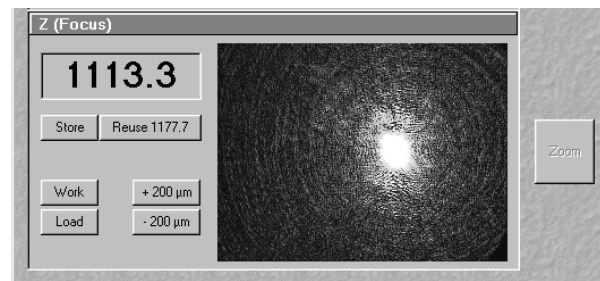

Fig. 3-18 Upper cover slip surface
- Having cautiously moved over a short distance, the cover slip reflection should look as shown in (Fig. 3-18). The upper cover slip surface has been found.